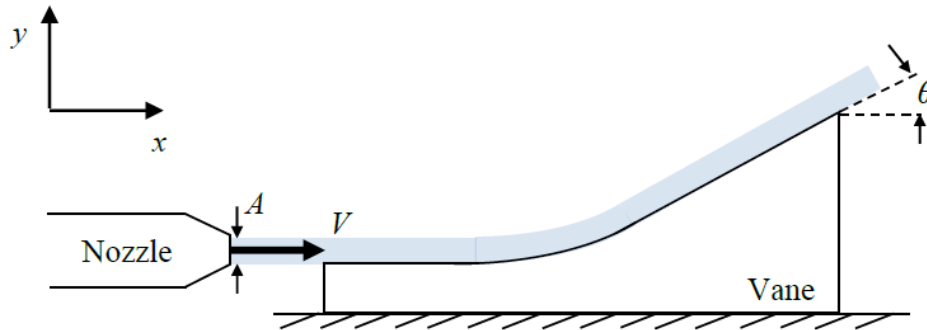

Fig. 10
**Problem Statement:** An horizontal water jet ( $\rho_{\text{water}} = 1000 \text{ kg/m}^3$ ) exits a nozzle with a uniform velocity  $V$  of 3 m/s, hits a vane, is turned through an angle of  $\theta = 40 \text{ deg}$ , and leaves the vane, as shown in Fig. 10 below. The cross-sectional area  $A$  of the flow is  $0.006 \text{ m}^2$ . For this question, neglect gravity and friction effects.